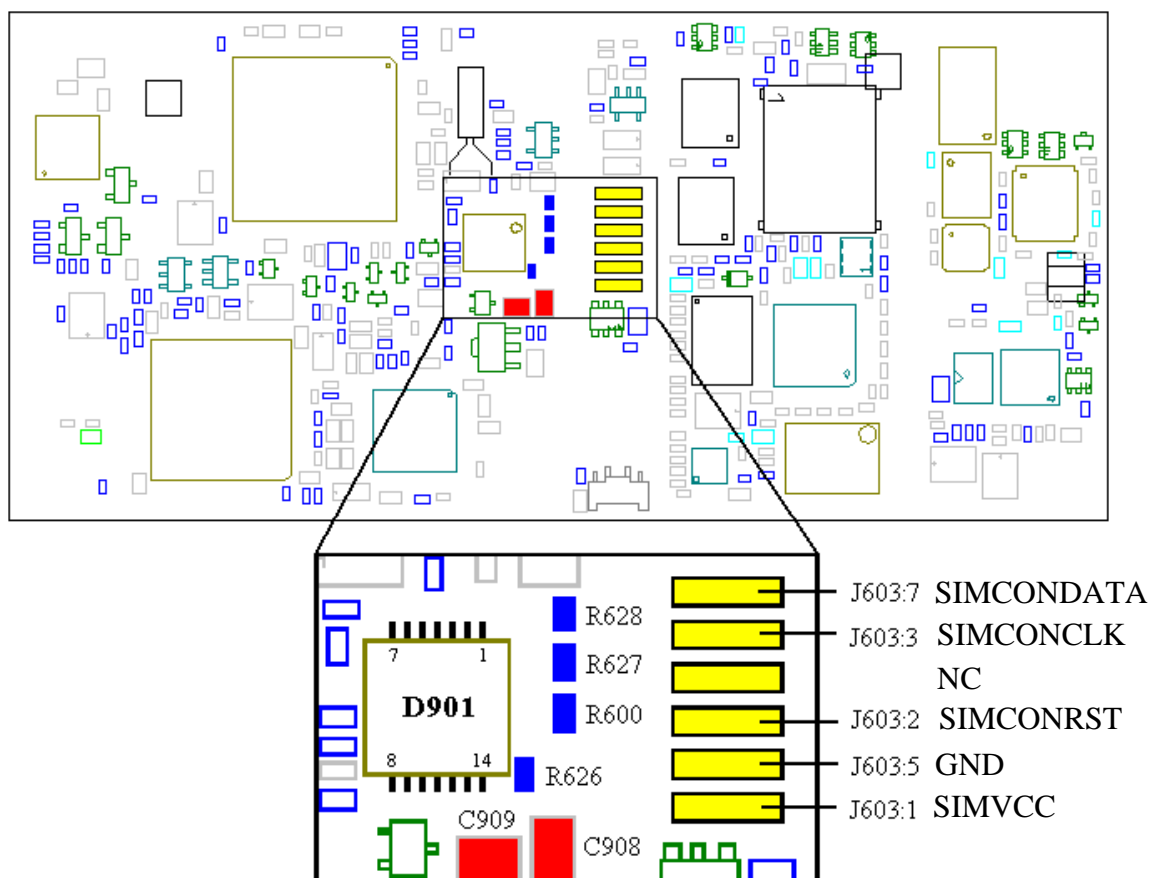

Fig. 7.1.
Measure at the SIMVCC-pad (see Fig. 7.1) while starting the phone. The phone sends 5 pulses with an amplitude of 5 V at start up (see Fig. 7.2).
- If SIMVCC is missing at J603 pad 1, do the same test again, as above, but at D901 pin 4 (see Fig. 7.1). The signal (SIMPWR) should look the same but with the amplitude 3.2 V.
Measure at the SIMCONRST- pad (see Fig. 7.1) while starting the phone. The phone sends 5 pulses with the amplitude 5 V at start up (see Fig. 7.2).
- If SIMCONRST is missing, do the same test as above, but at D901 pin 7 (see Fig. 7.1). The signal (SIMRST) should look the same, but with the amplitude 3.2 V.
Measure at the SIMCONCLK- pad (see Fig. 7.1) while starting the phone. The phone sends 5 pulses with the amplitude 5 V at start up, these pulses are modulated with a clock signal (see Fig. 7.2).
- If SIMCONCLK is missing, do the same test as above, but at D901 pin 6 (see Fig. 7.1). The signal (SIMCLK) should look the same, but with the amplitude 3.2 V.
Measure at the SIMCONDAT- pad (see Fig. 7.1) while starting the phone. The phone sends 5 pulses with the amplitude 5 V at start up (see Fig. 7.2).
- If SIMCONDAT is missing, do the same test as above, but at D901 pin 5 (see Fig. 7.1). The signal (SIMDAT) should look the same, but with the amplitude 3.2 V.